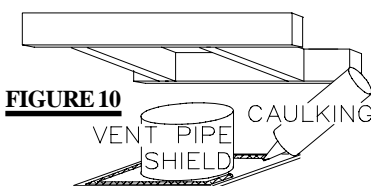
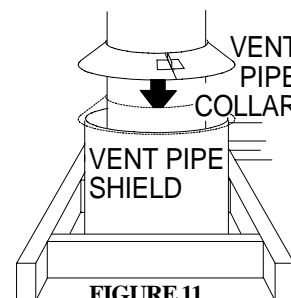

FIGURE 10
FIGURE 11
A vent pipe shield will prevent any materials such as insulation, from filling up the 1" air space around the pipe. **FIGURE 11.** Nail headers between the joist for extra support.
2. Apply a bead of caulking (not supplied) to the framework or to the Wolf Steel vent pipe shield plate or equivalent (in the case of a finished ceiling), and secure over the opening in the ceiling. **FIGURE 10.** A firestop must be placed on the bottom of each framed opening in a roof or ceiling that the venting system passes through. **FIGURE 11.** Apply a bead of caulking all around and place a firestop spacer over the vent shield to restrict cold air from being drawn into the room or around the fireplace. Ensure that both spacer and shield maintain the required clearance to combustibles. Once the vent pipe / liner is installed in its final position, apply sealant between the pipe / liner and the firestop spacer.
5. Thread the air terminal pipe assembly down through the roof support and attach, ensuring that a minimum 16" of air terminal will penetrate the roof when fastened. **FIGURE 16.** If the attic space is tight, we recommend threading the Wolf Steel vent pipe collar or equivalent loosely onto the air terminal assembly as it is passed through the attic. **FIGURE 11.** The air terminal must be located vertically and plumb.